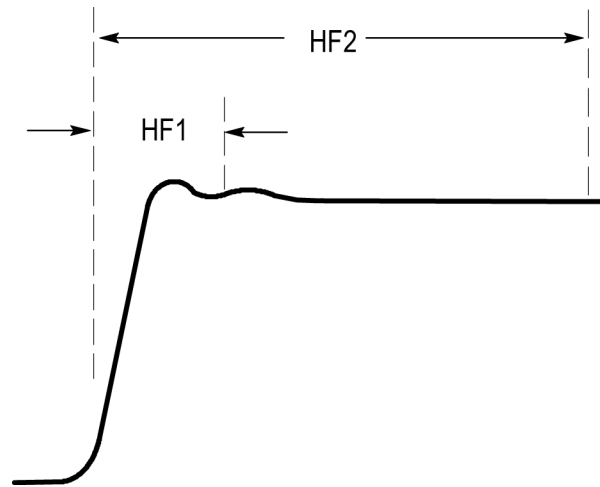

Figure 9: HF Compensation Adjustments
9. Adjust **HF1** for a square leading edge. (See Figure 9.)